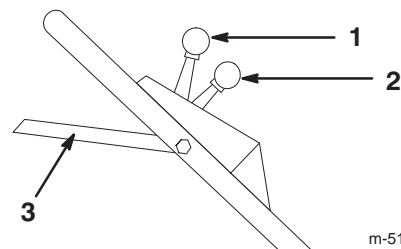

Figure 7
The throttle control and the ground speed control levers are on the console on the handle with the throttle control to the left and the ground speed control to the right. The blade/self-propel control bar is under the upper handle (Fig. 7).
3. Move the throttle control to the  (**Choke**) position (Fig. 7).
4. Move the ground speed control to the  (**Neutral**) position (Fig. 7).